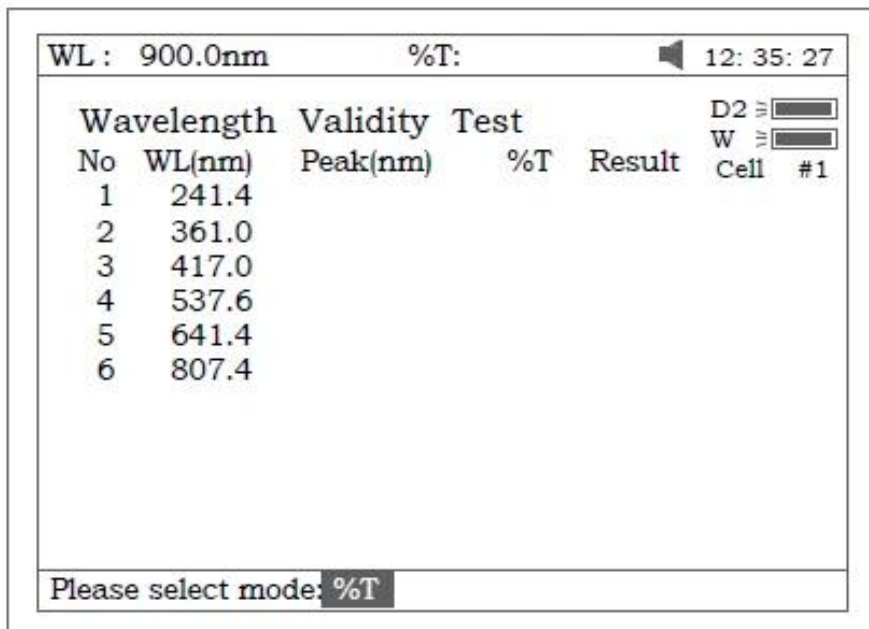

Figure 97
3. Press **【F2】** to select test mode (Abs or %T, Fig 97).